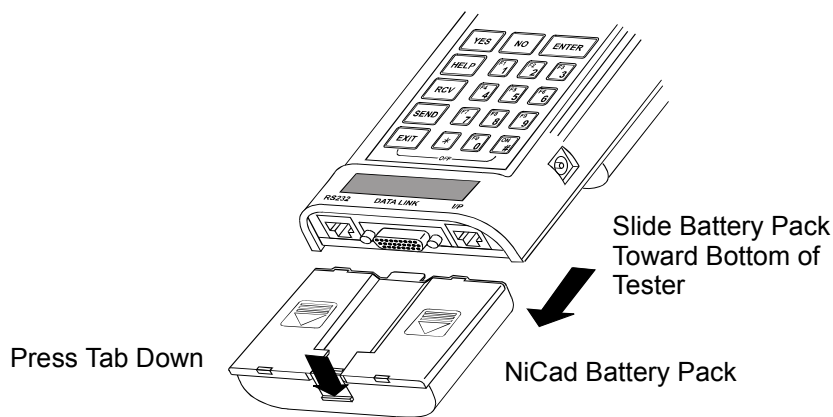

FIGURE 4-2. Activating Lithium Battery
2. To activate the Lithium battery, see Figure 4-2 to remove the NiCad battery pack. Press on the tab at the bottom end of the battery pack while pulling the battery pack toward the bottom of the tester.